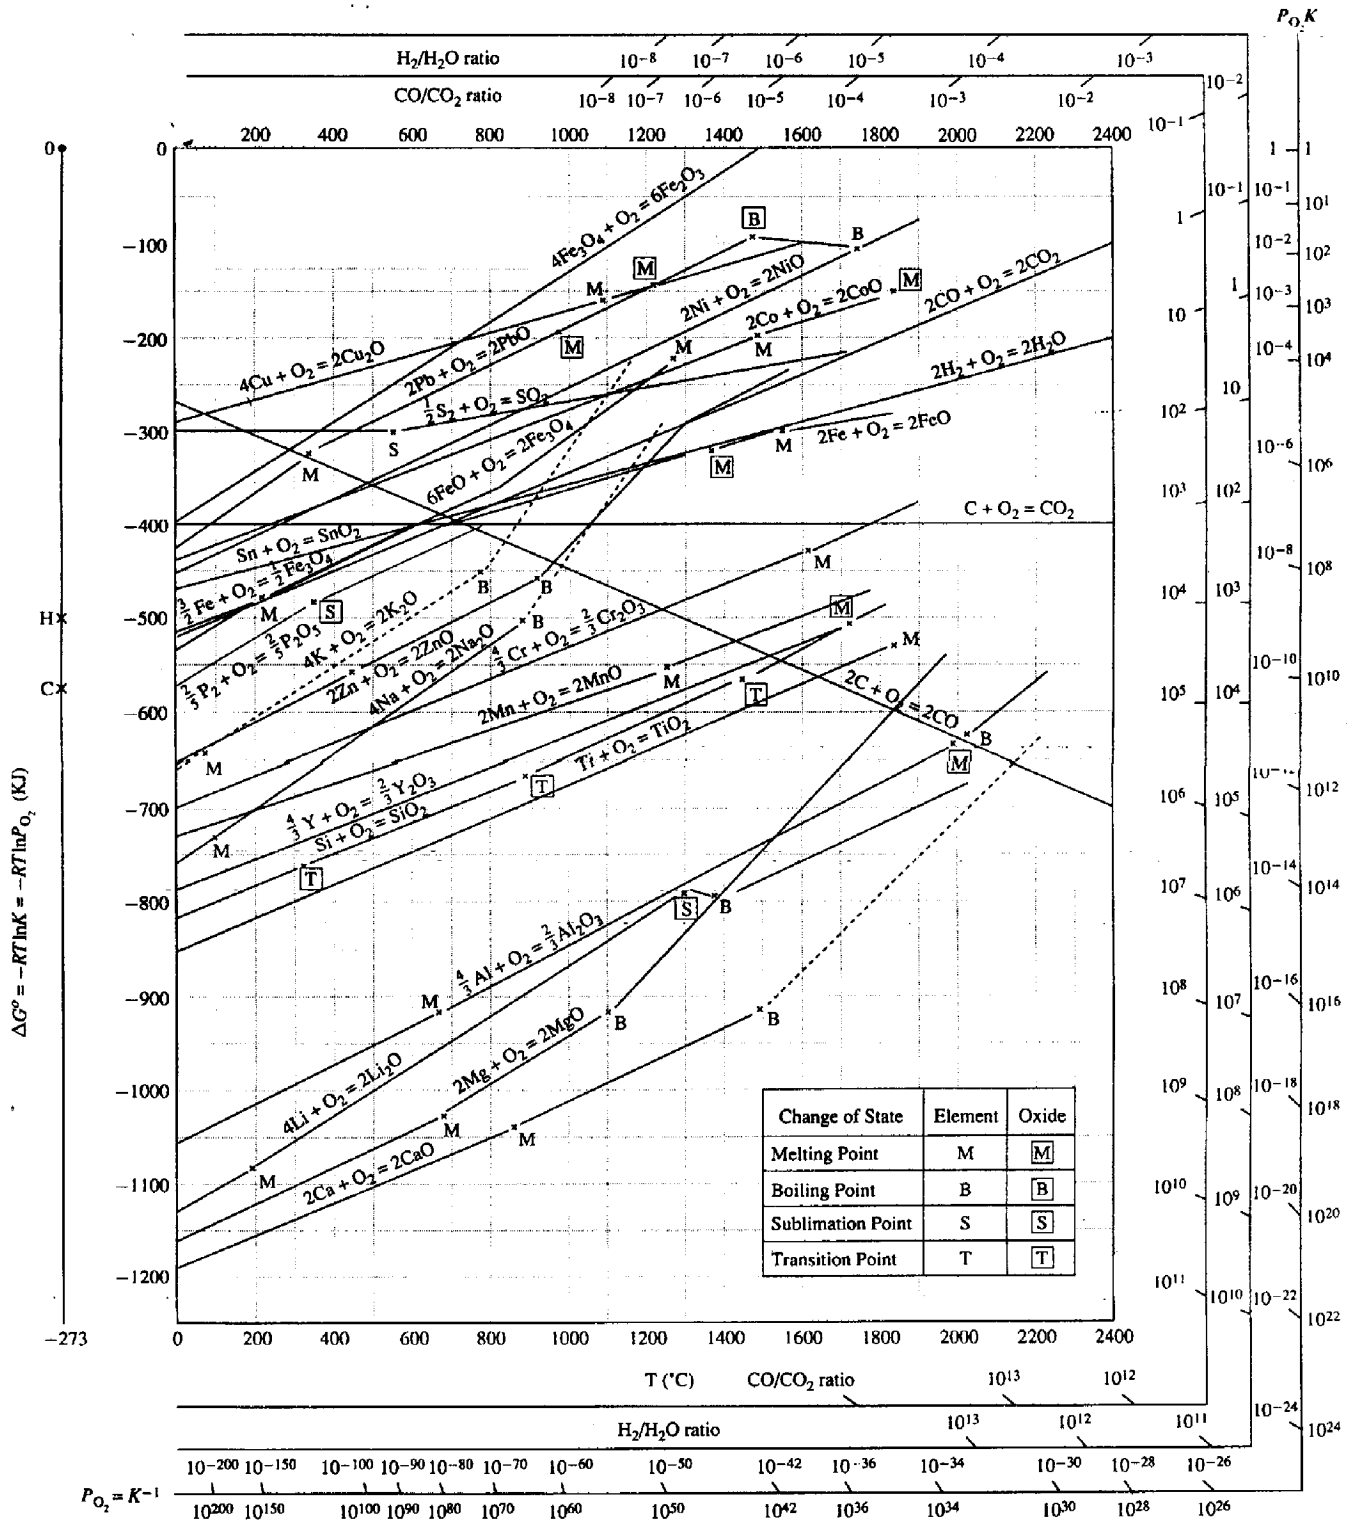

Figure 2 Ellingham diagram
- d) Based on the Ellingham diagram (See Fig. 2) what is the oxygen partial pressure, in which pure  $\text{Al}_2\text{O}_3$  can be reduced to pure Al at  $T=1000^\circ\text{C}$ ? Give also the corresponding equilibrium constant for the reaction (2p)